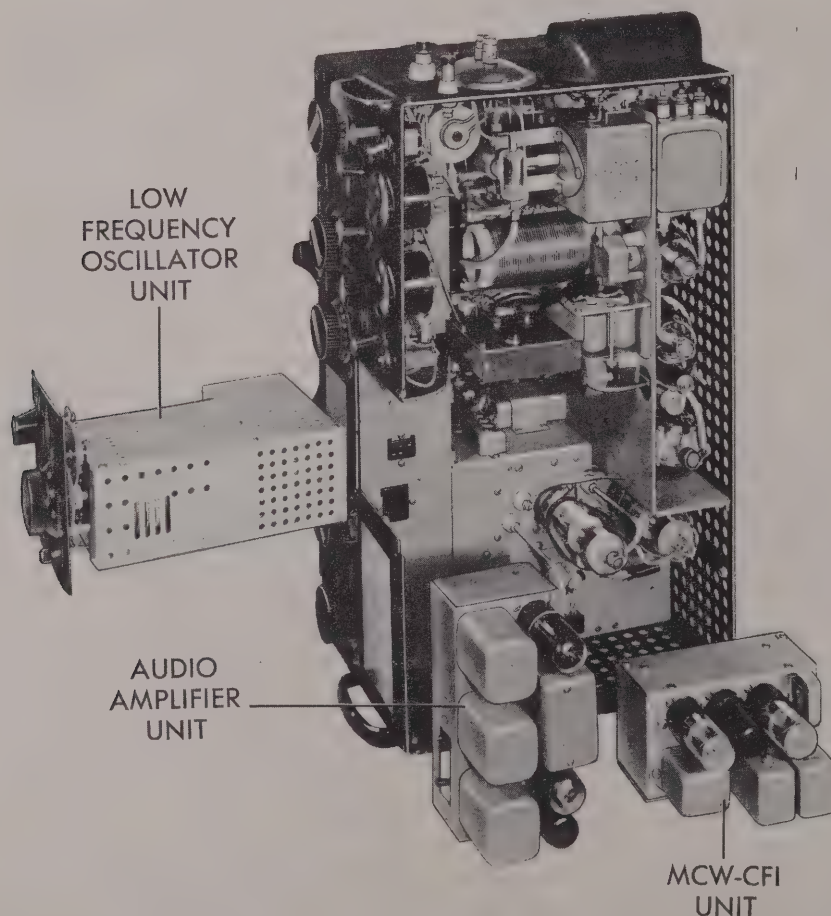

Figure 5-6. Radio Transmitter T-47A/ART-13 and Removable Units
(5) **DISASSEMBLY OF TRANSMITTER UNIT.**—The transmitter unit contains three major assemblies that are equipped with multi-terminal plugs to permit removal without unsoldering any connections. These readily removable assemblies are the VFO Low Frequency Oscillator O-17/ART-13A (or in Model AN/ART-13B only, the CDA-T Crystal-Controlled Oscillator), the Audio Amplifier, and the MCW-CFI Unit. Figures 5-6 and 1-3A show the units removed from the equipment. Wrap-around sections and panels of the